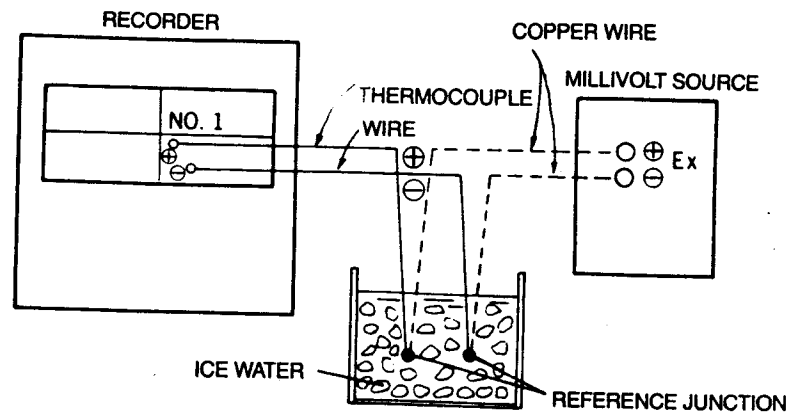

Figure 4-3. Hook-up Thermocouple
2. On models with millivolt inputs, connect from the mV source directly to the recorder. For models with thermocouple inputs, attach a cold reference junction between the recorder and the mV source. See Figure 4-3.